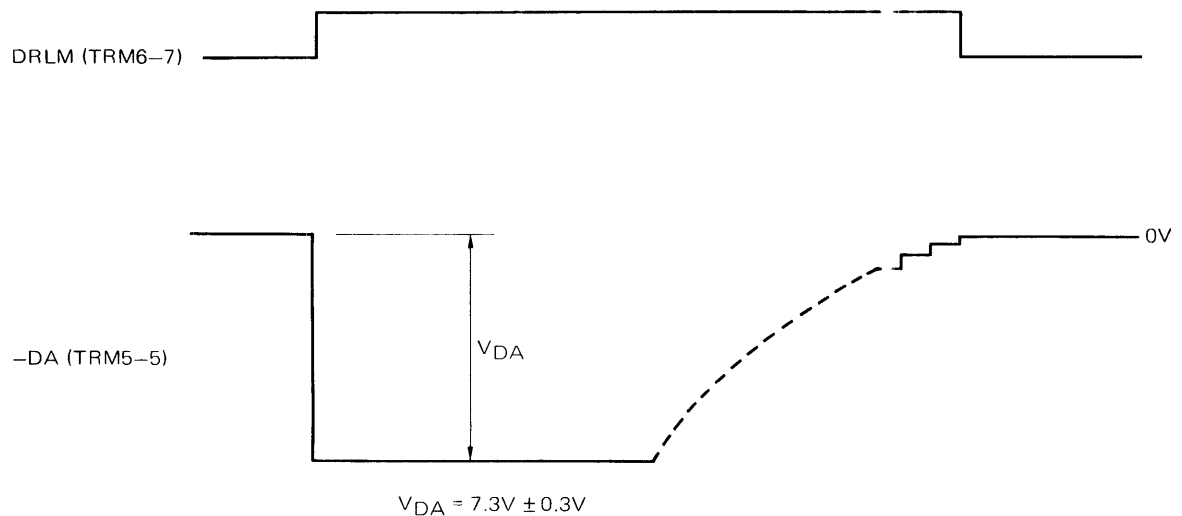

Figure 6-6-14 DAC Output Adjustment
5. Adjust a potentiometer RV11 so that V_{DA} is $7.3\text{V} \pm 0.3\text{V}$ as shown in Figure 6-6-14.